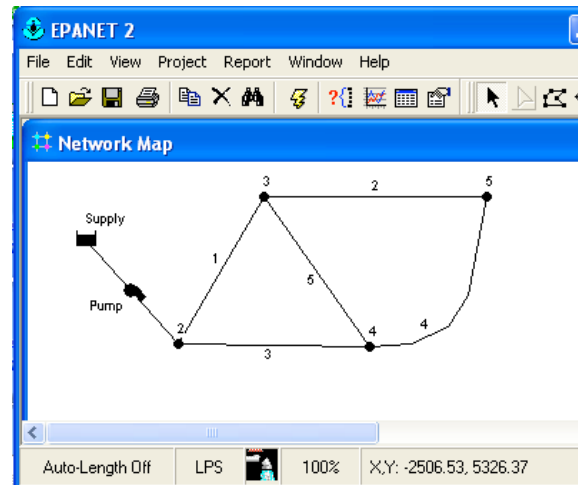

Figure 8: EPA-NET system topology.
11. An EPA-NET simulation model for a reservoir-pump-network was constructed and operated for four (4) different operational scenarios. Figure 8 is a depiction of the network. The numbers next to the nodes are Node_ID values in the reports that follow, and the numbers next to the pipes are the Link_ID values. The network is supplied from a reservoir through a booster pump, both are depicted on Figure 8.